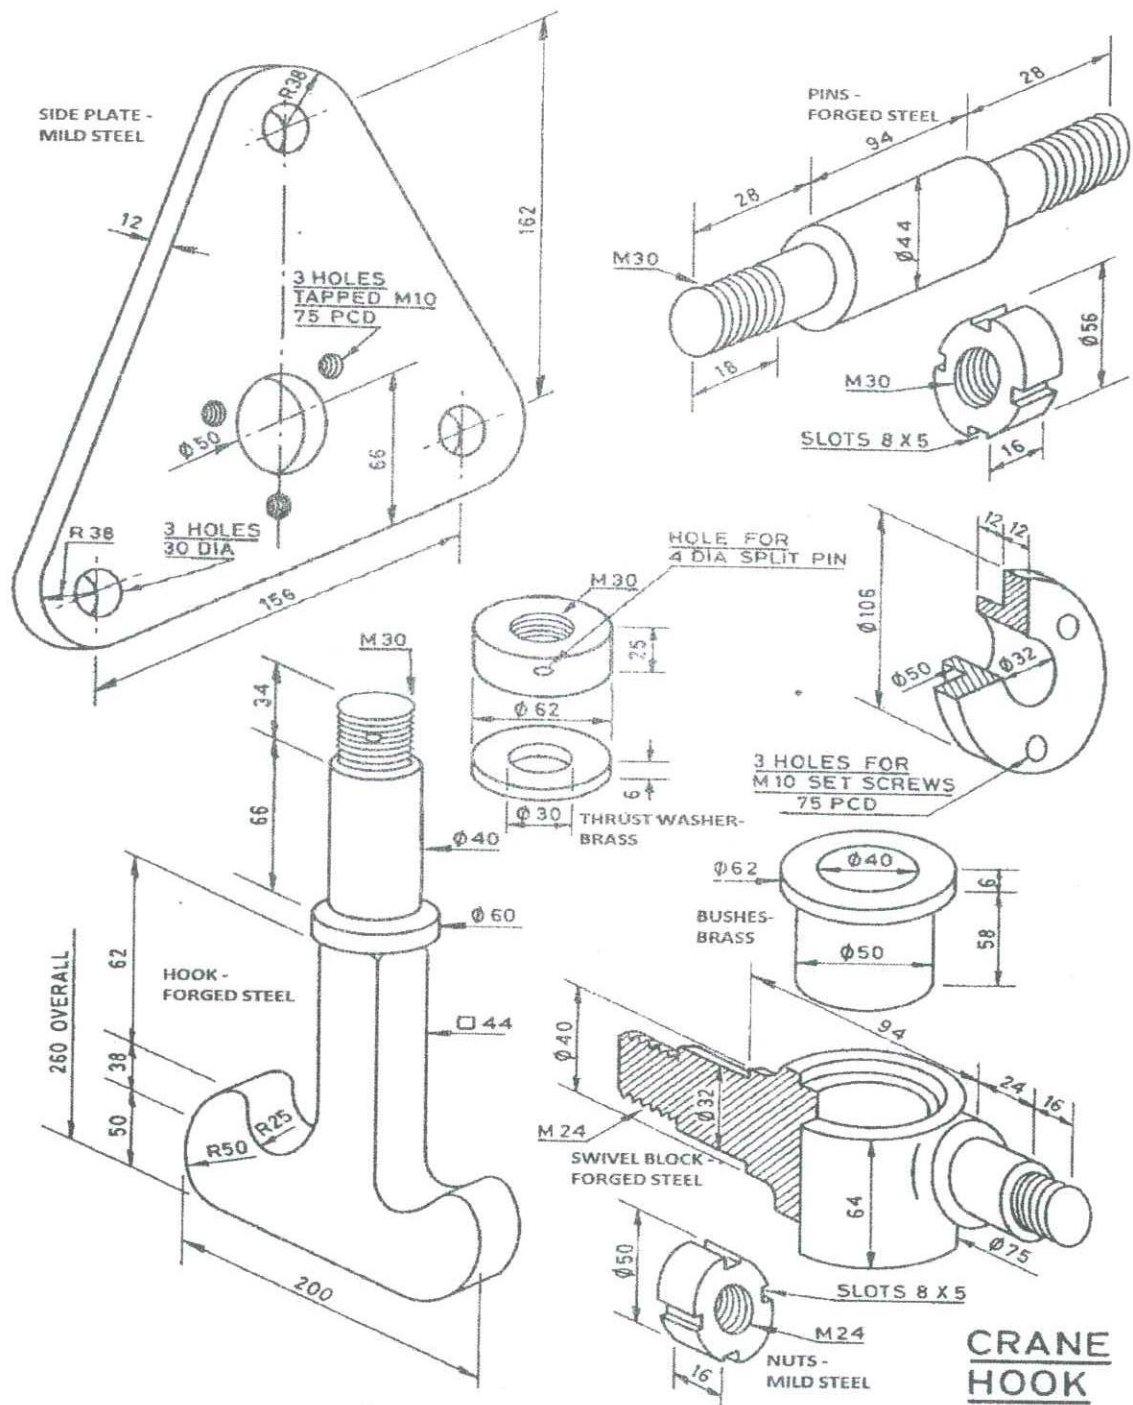

Figure Q1: Detailed parts of a crane hook
**Q1.** Figure Q1 shows details of a crane hook. The side plates are held together by three 44 mm diameter studs, one of which is shown. The swivel block fits into two bushes which are secured to the side plates by three M10 set screws in their flanges. This hook is free to revolve in a 49 mm diameter bush fitted in the swivel block. A thrust washer exists between the M30 nut on the screwed end of the hook and the top of the bush.